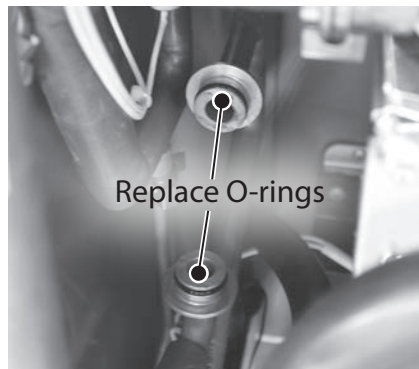

Figure 186 - Replace exposed O-rings
- 17 Locate the two O-rings on the exposed water pipe connections as shown in Figure 186 and remove them. Dispose of O-rings properly.